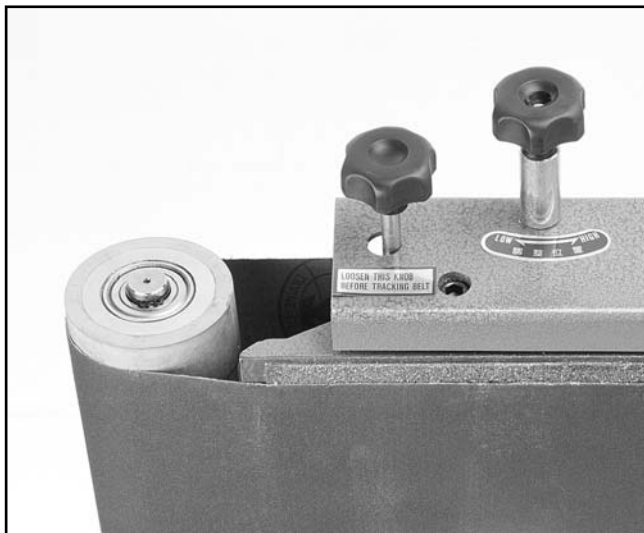

Figure 19. Location of tracking knob.
1. Carefully move the belt left to right by hand and adjust the tracking knob as necessary to achieve proper tracking. **See Figure 19.**